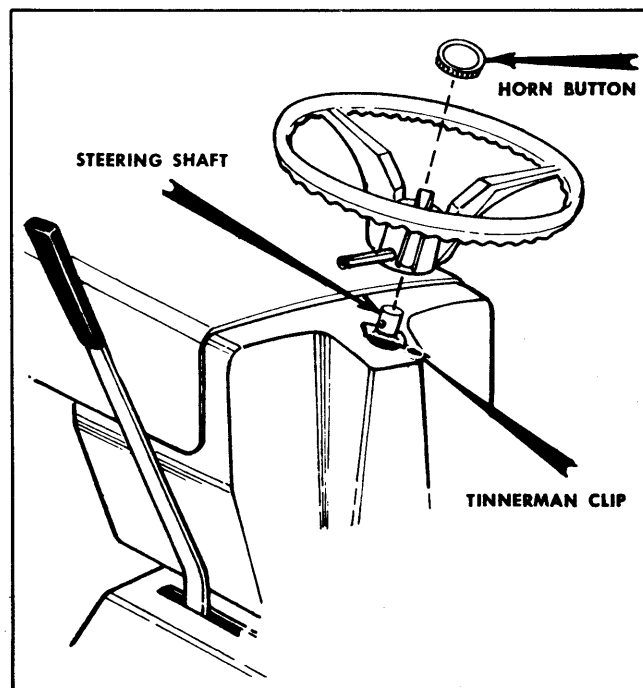

FIGURE 1 STEERING WHEEL ASSEMBLY
To assemble the steering wheel to the machine, refer to figure 1 and proceed as follows:
4. Attach the negative terminal to the battery post with the 1/4" bolt, washer and nut as illustrated in Figure 1.